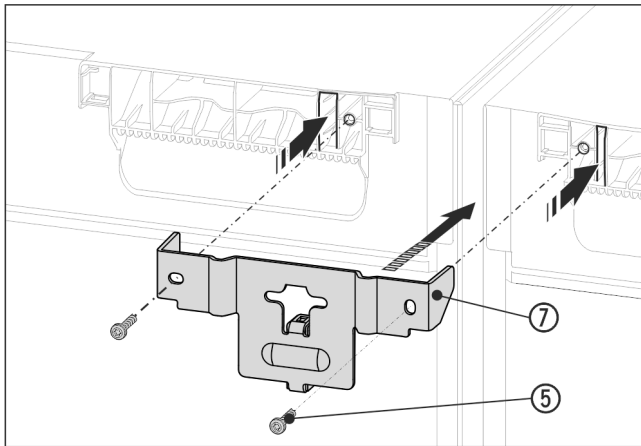

Fig. 19 Example illustration
- ▶ Slide the bracket *Fig. 19 (7)* onto the appliance ceiling with the lugs and with the spacer between the appliances. Screw in firmly with 2 screws *Fig. 19 (5)*.